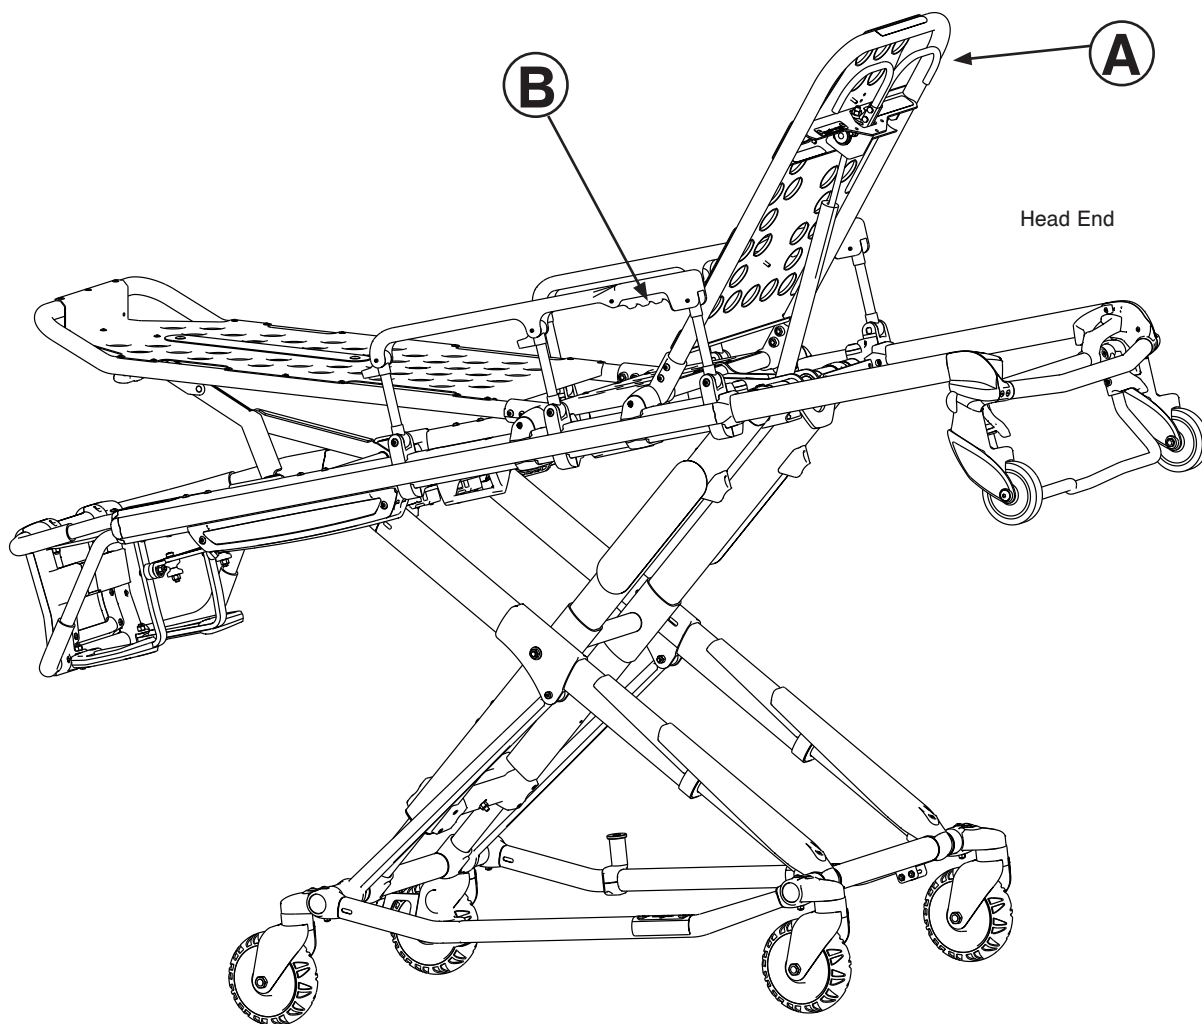

Figure 41 - Backrest Elevated and Siderails Raised
**To raise the siderails**, as shown in Figure 41, lift up until the latch clicks and the siderail locks into place. When a patient is on the cot, always keep the siderails in the raised position unless the patient is being transferred.
**To lower the siderails**, squeeze handle (B) to release the siderail latch. Guide the siderail down toward the foot end until flat.
**To raise the backrest**, as shown in Figure 41, squeeze handle (A) for pneumatic assist in lifting the backrest to the desired height.
**To lower the backrest**, squeeze handle (A) and push down on the backrest frame until the backrest has reached the desired height.